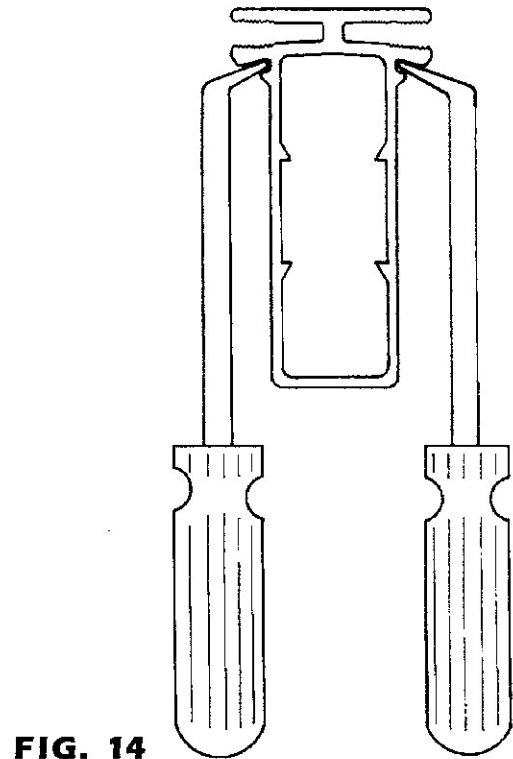

**FIG. 13**
2. Attach mesh to mesh support ring with three J-clips by sliding J-clip through mesh into mesh support ring slots and bending bottom of J-clip around mesh support ring as shown. (See Fig. 13)